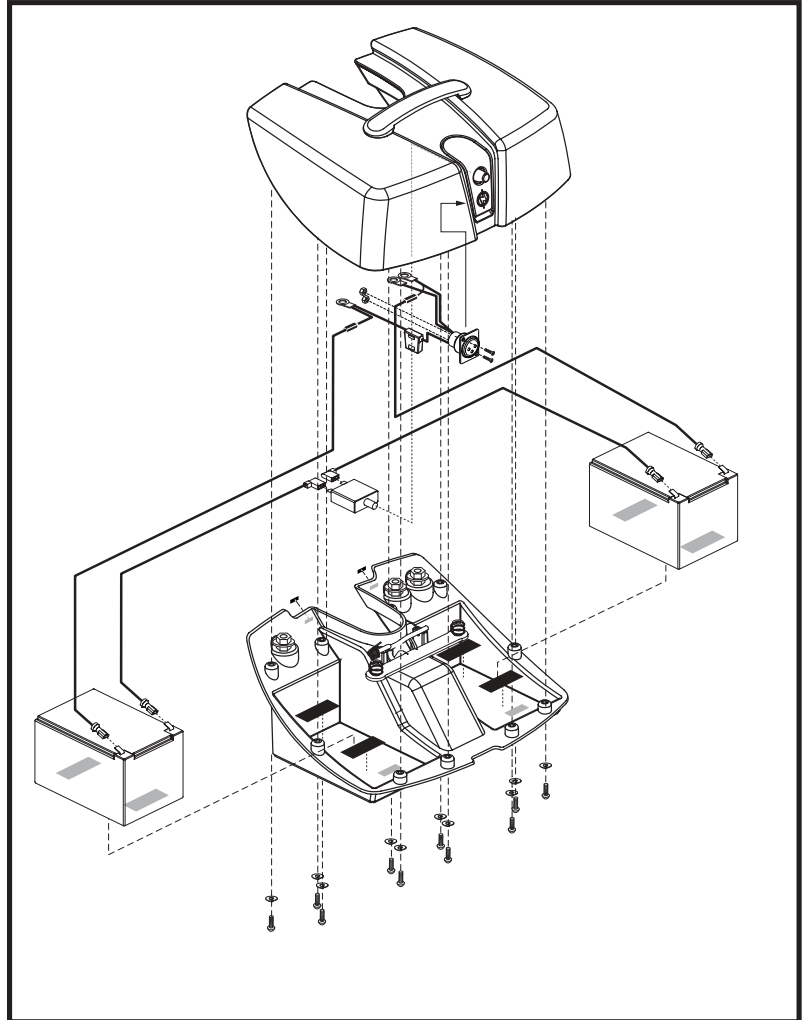

Figure 24. Go-Chair Battery Box
3. Remove all screws that hold the battery box halves together. See figure 24.